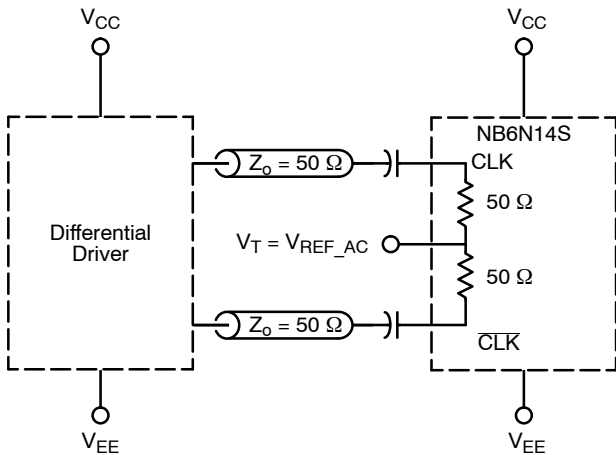

Figure 14. Capacitor-Coupled Differential Interface ( $V_T$  Connected to  $V_{REF\_AC}$ )
**DIFFERENTIAL INPUTS DRIVEN SINGLE-ENDED** (Figures 14, 15, 19, and 21)
11.  $V_{REF\_AC}$  used to rebias capacitor-coupled inputs only (see Figures 14 and 15).